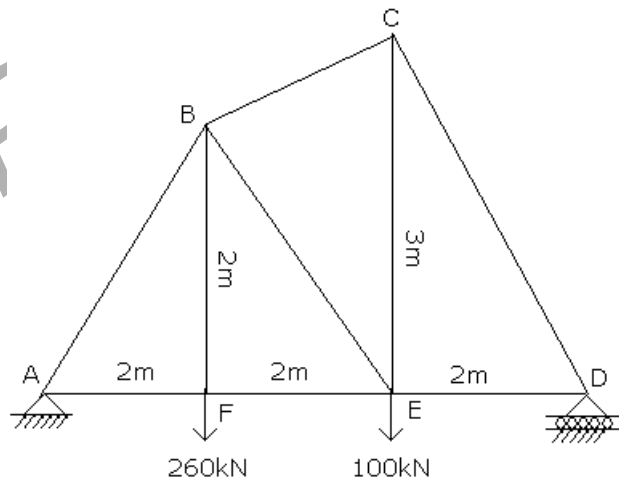

Figure 7
2. Analyse the frame shown in Figure 7. [16]